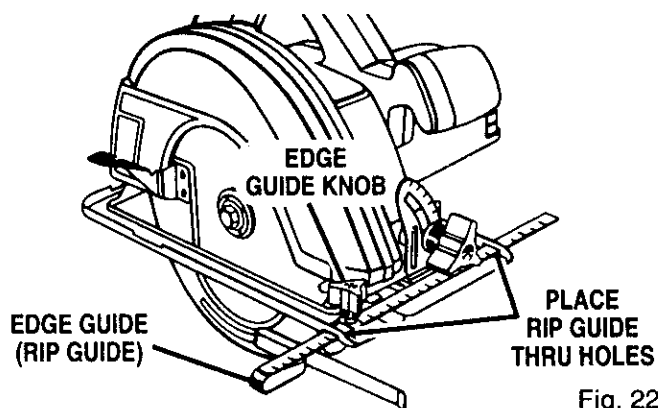

Fig. 22
C-clamps, firmly clamp a straight edge to the workpiece and guide the saw along the straight edge to achieve a straight rip cut. Do not bind the blade in the cut. If using the optional rip guide, see the following instructions and Figure 22.
■ Place rip guide through holes in saw base as shown in Figure 22.